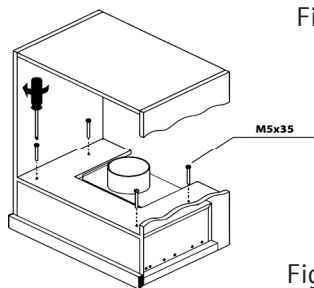

Fig.4.1
6.5 To install the cooker hood in the kitchen closet, make 4 holes of 6-7 mm in diameter in the lower shelf the cooker hood with 4 screws M5x3 (Fig. 4.1).